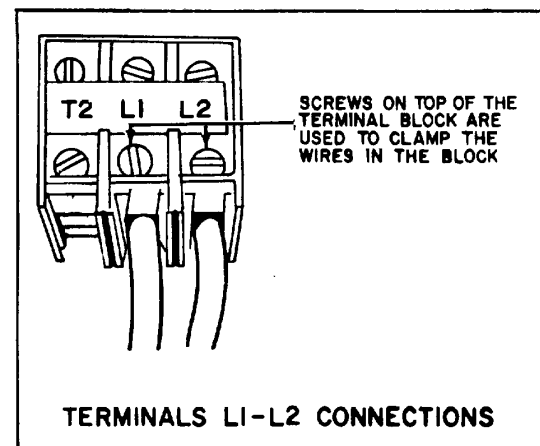

Figure 21. Connecting Wires To Terminals
3. The wires must be connected to terminals L1 and L2 through the front face of the terminal block as shown in Fig. 21. The screws on the top of the terminal block are used for clamping the wires in the terminal block.